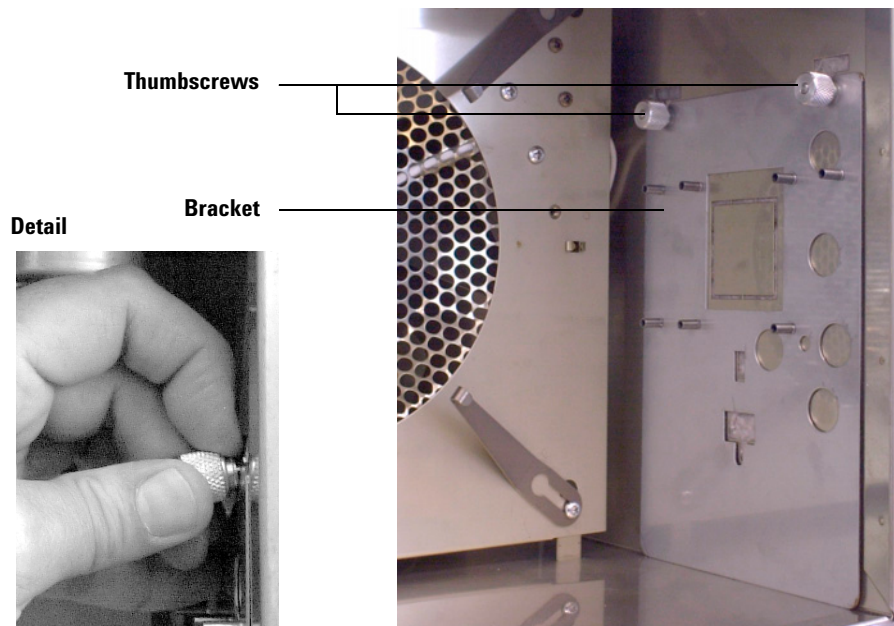

Figure 4 Installing the bracket
- 5 Use two T-shaped thumbscrews to fasten the two bracket notches to the T-slots in the oven wall (Figure 4).